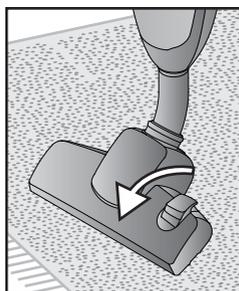

Fig. 4
- To clean carpets and resistant floors we suggest not to use bristles. To curve the bristle inwards inside the brush you must lift the selector (I) upwards (Fig. 4).